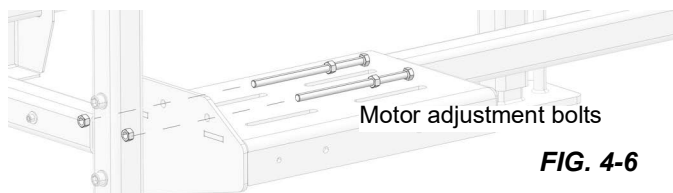

FIG. 4-6
9. Screw one nut on each motor adjustment bolt before inserting into the motor mount shelf. See FIG. 4-6.
15. Use the adjustment bolts to tension the chain on the sprockets as shown in FIG. 4-6.